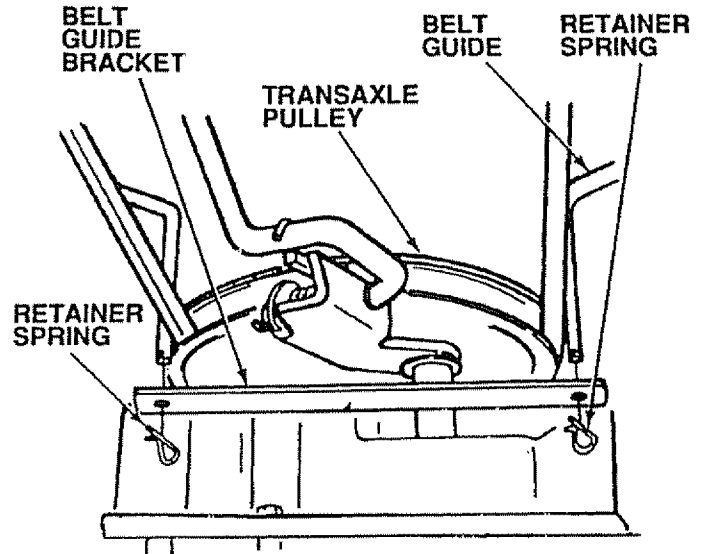

FIGURE 27
- Remove two retainer springs from belt guide bracket below transaxle pulley. Remove bracket (Fig. 27).
- Swing belt guides away from belt, toward rear of tractor (Fig. 27).